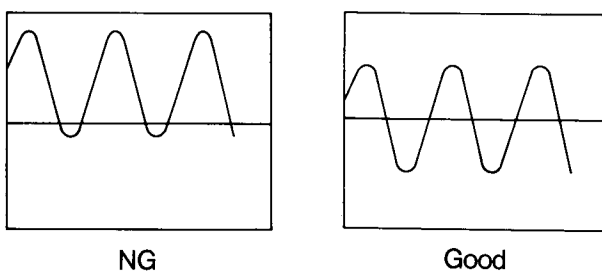

fig 1
(1) Connect oscilloscope with TP1 of KLM-1072. (GND: TP2)
(2) Play C4 key, and confirm if the center of output waveform were will-balanced with center line as below. If not, adjust VR2, to obtain as below. (fig 1)